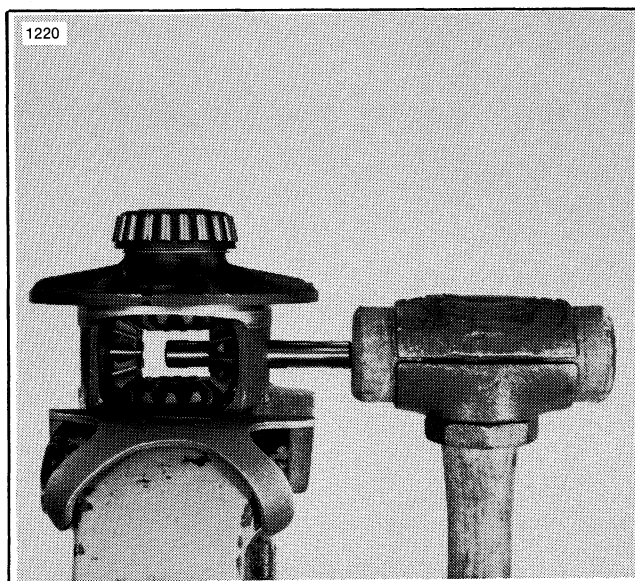

Figure 3-20. Installing Pinion Mate Shaft
2. Install thrust washers (16) and pinion mate gears (15).
3. Rotate pinion mate gears (15) until pinion mate shaft (14) can be inserted. Use soft hammer if necessary to drive mate shaft into case (Figure 3-20).